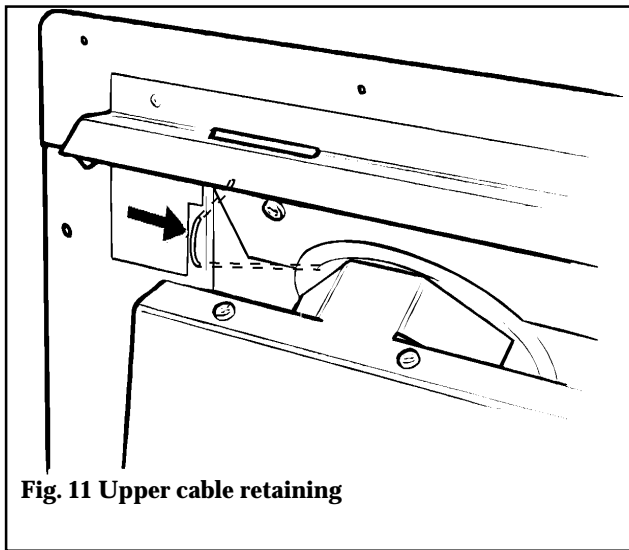

Fig. 11 Upper cable retaining
7.2.4 The convection box has two holes at each side of the convected air opening. Insert one end of each cable (one cable each side) from the back through the lower of the two holes and return the end through the upper of the holes (see figure 11). Give the cables a pull so that they grip against the convection box flanges.